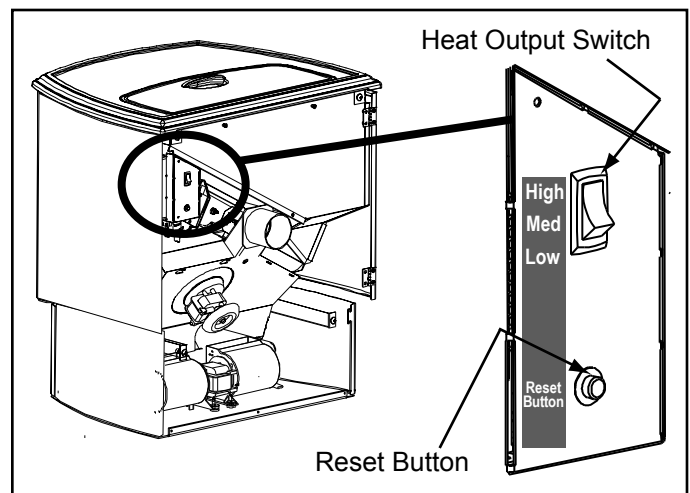
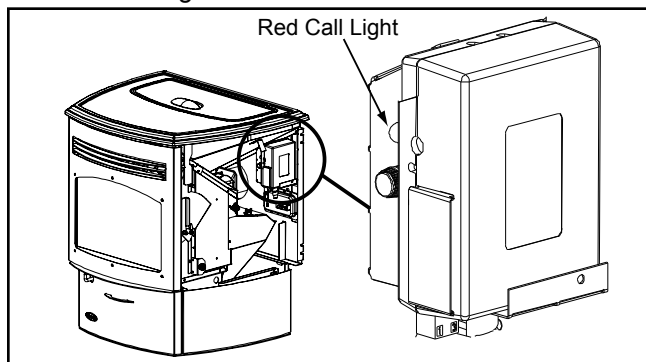

Figure 22.1
Figure 23.1
3. Locate the heat output control switch mounted on the back of the appliance in the upper right corner. **See Figure 22.1 on page 22.** Turn it to the "high" setting by pushing the top of the control switch in and then adjust the thermostat to its highest setting. Open the right side panel and the red call light located to the left of the control box will be on. **Figure 23.1.** This indicates the thermostat is calling for heat.
3. Occasionally the appliance may run out of fuel and shut itself down. When this happens, the red call light will be on. **See Figure 23.1, page 23.** To restart it, fill the hopper and press the reset button. **See Figure 22.1, page 22.** When you press the reset button the red call light will go out. Release the button and the light will come back on. You should see a fire shortly. If not, follow the instructions on **page 23**, of "Starting Your First Fire".